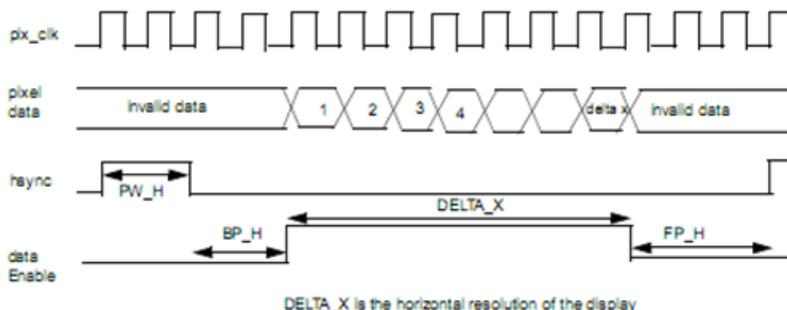

Figure 1. Horizontal timing—back porch (BP_H), front porch (FP_H), and pulse width (PW_H)
- The HSYNC and VSYNC blanking signals must be the same length as those defined in the DCU. The DCU values are defined in the HSYN_PARA and VSYN_PARA registers. The front and back porch values must also match (see Figure 1). Any variation—even by just a single clock—prevents a lock.